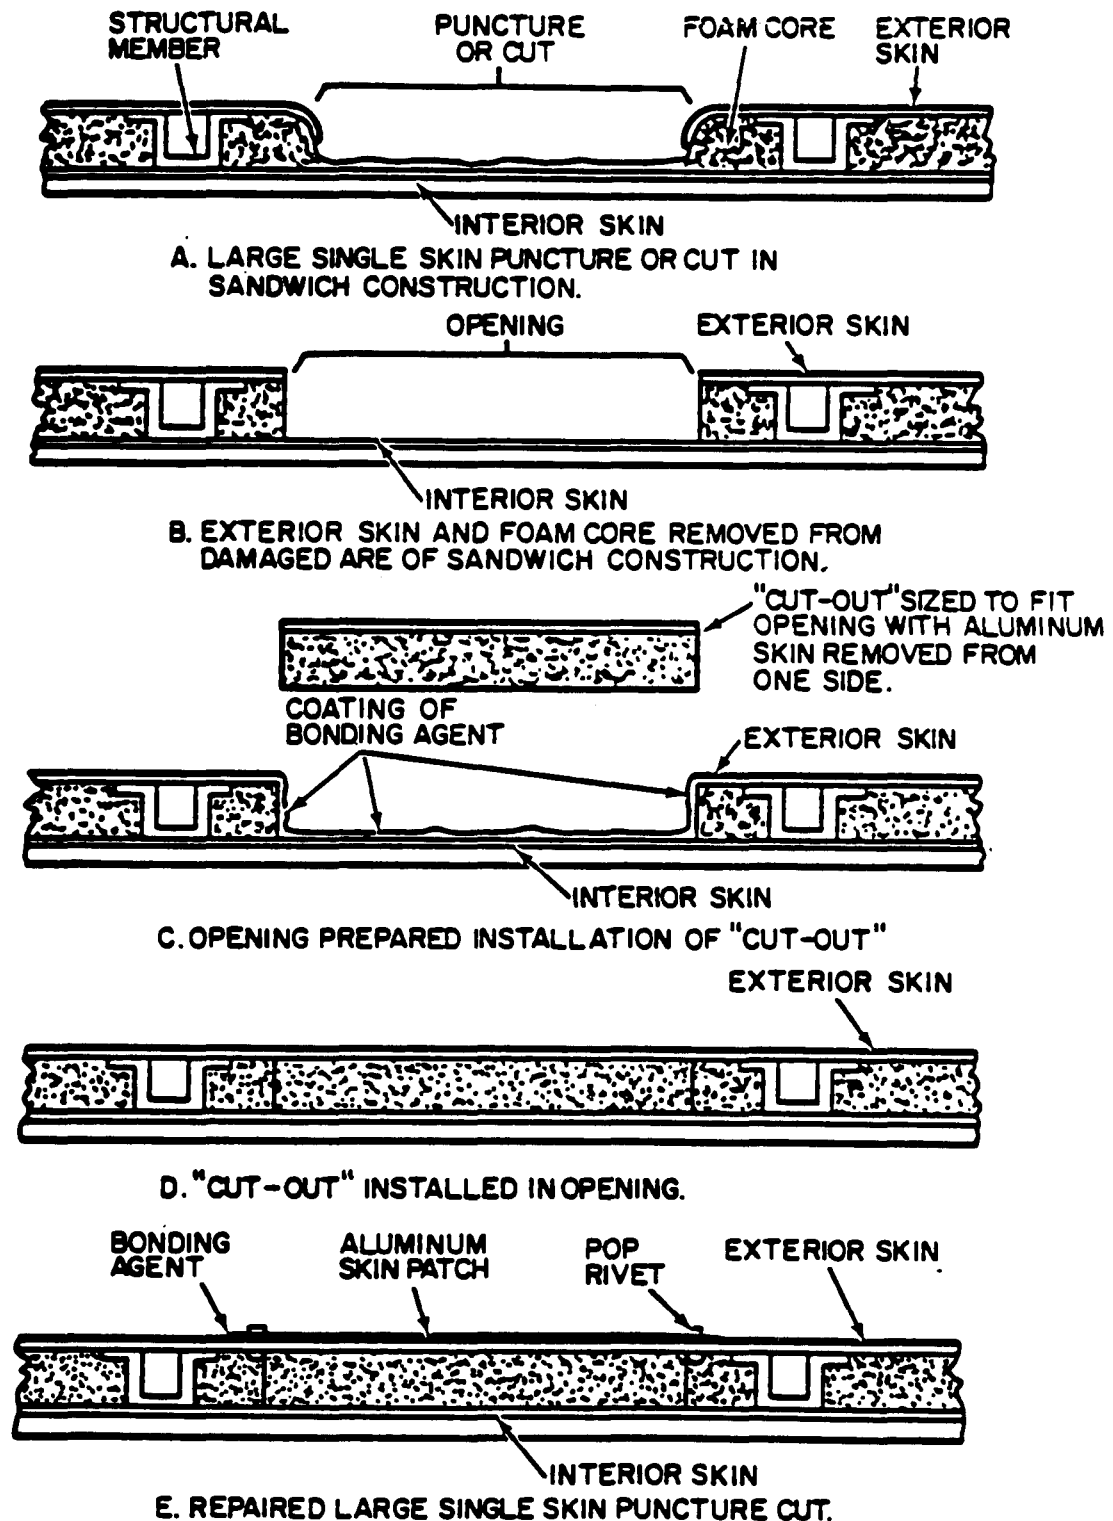

Figure 4-5. Shelter Wall Repair of Large Skin Puncture or Cut.
#### Repair. (Figure 4-5)
- (1) Select an aluminum skin patch that overlaps the puncture or cut by one inch in all directions.
- (2) Use the aluminum skin patch as a template positioned over the puncture or cut, and lightly scribe the area of the aluminum skin patch on the skin of the shelter.
- (3) Use a saw to cut and remove the punctured or cut skin area approximately one inch within the scribed mark (A and B, Figure 4-5).
- (4) Cut the foam core evenly along the edges where the skin is removed and remove the damaged foam core (B, Figure 4-5), maintaining perpendicular and straight edges.
- (5) Select a piece of block insulation or a cutout of the same type sandwich construction (C, Figure 4-5).
- (6) Size the block insulation or cutout to fit the opening where the skin and foam were removed. If a cutout is used, remove the aluminum skin from one side of the cutout.
- (7) Remove all paint or foreign matter from the overlap area on the skin of the shelter and an area approximately one inch around the scribed mark using emery cloth and cleaner. If the cutout is used, remove all paint or foreign matter from the aluminum skin of the cutout.
- (8) Roughen the skin surface with coarse grit emery cloth. If a cutout is used, roughen the surface of the aluminum skin.
- (9) Coat the interior of the opening where the skin and foam core were removed with mixed adhesive (paragraph 4-7.b.(4)).
- (10) Insert the block insulation or cutout into the opening where the skin and foam core were removed (D, Figure 4-5).
- (11) With the aluminum patch over the puncture area, drill #30 holes, around the perimeter of the patch, 1/2 inch from edge of patch and on one inch centers.
- (12) Coat the exposed block insulation or cutout and the overlap area with mixed adhesive.
- (13) Dip the pop rivets in the mixed adhesive and use the riveting tool for pop rivets to install the aluminum skin patch as shown (E, Figure 4-5).
- (14) Smooth and taper mixed adhesive (squeezed out during the riveting process) along the edges of the aluminum skin patch and immediately remove excess mixed adhesive with cloth saturated in toluene solvent.
- (15) Prime and paint the repaired surface. (Refer to paragraph 4-12.)
- (16) Inspect the repaired area to ensure that rivets and paint were applied correctly.